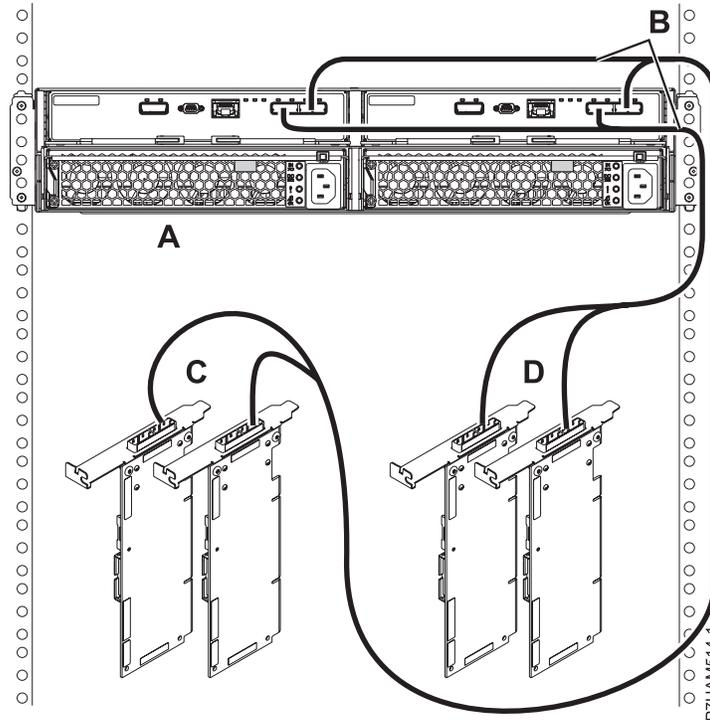

Figure 42. Mode 2 connection of one 58/87 disk drive enclosure by using X cables to two SAS adapter pairs
16. Perform the mode 2 connection of one 58/87 disk drive enclosure (A) by using X cables (B) to two SAS adapter pairs as shown in Figure 42 on page 75.